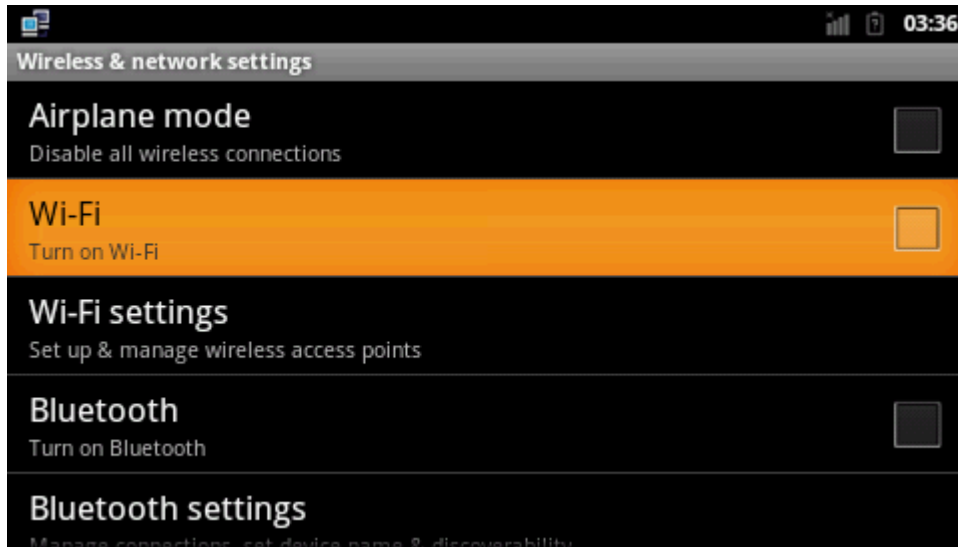

Figure 5-29
(3) Click "Wi-Fi" option to open Wi-Fi. Refer to figure 5-29: